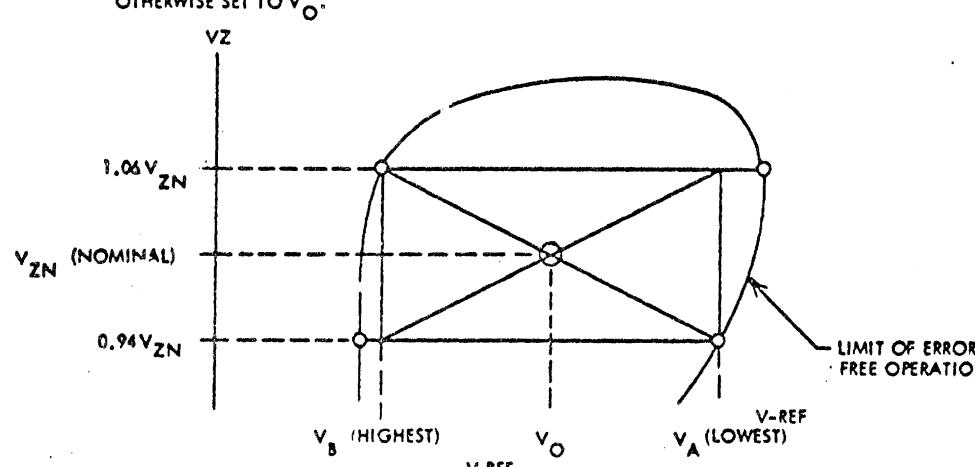

FIGURE 7
5.  $V_O$  IS MIDPOINT BETWEEN  $V_A$  AND  $V_B$  (FIGURE 7). SET VREF 0.15 VOLTS BELOW  $V_O$  IF TEMPERATURE IN "C2" IS BELOW 106° F; OTHERWISE SET TO  $V_O$